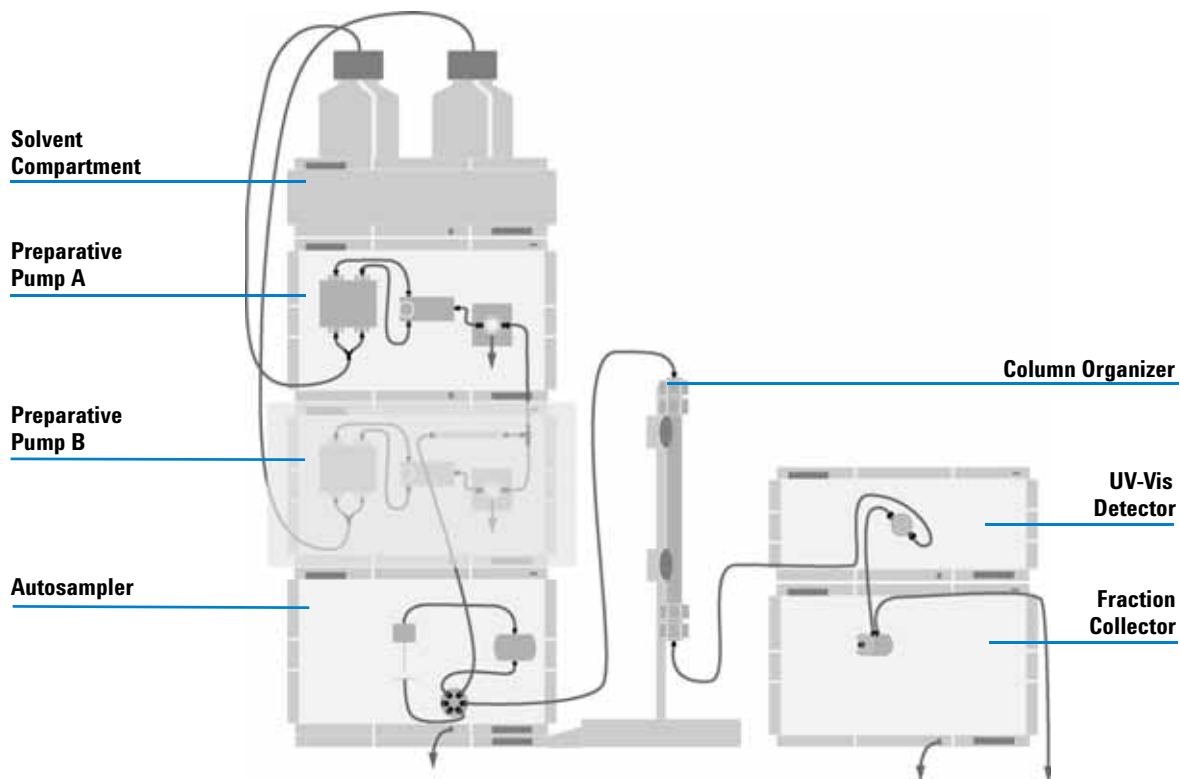
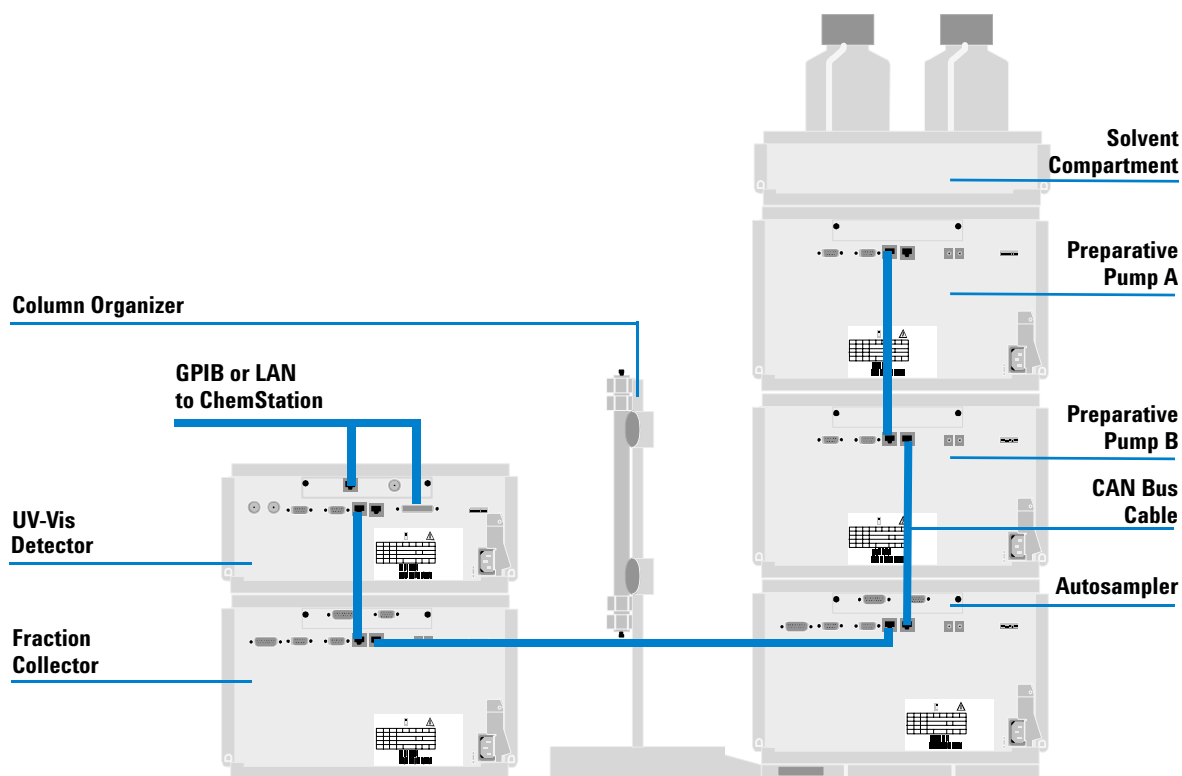

Figure 3 Recommended Stack Configuration - Fraction Collector in a Preparative System (Front View)
Figure 4 Recommended Stack Configuration - Fraction Collector in a Preparative System (Rear View)
- Figure 3 on page 23 and Figure 4 on page 24 show the configuration recommended for the fraction collector with a preparative scale system.